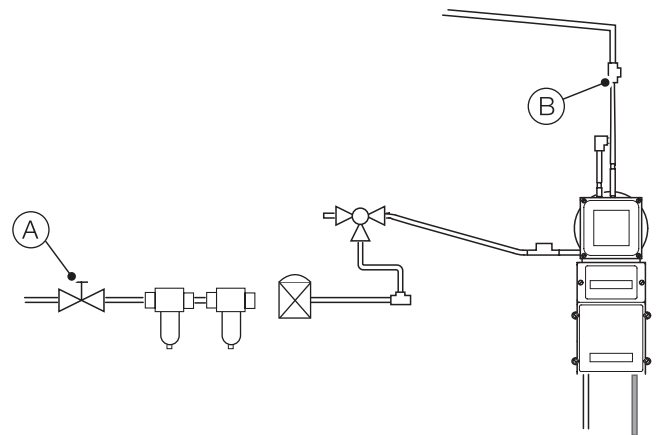

Figure 3 Shutting down instrument air and test gas supplies
Referring to Figure 3, close air supply valve (A) and shut down test gas line (B) at the supply.